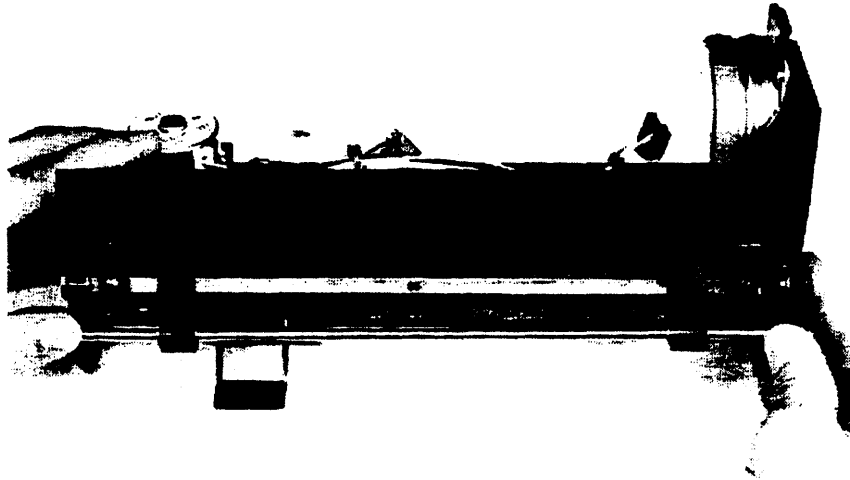

Figure 6-14. Bail-Arm Adjustment—Left Side
2. Once the right side is adjusted properly, apply downward pressure on the right side of the bail arm assembly and lift the left side of the bail. See figure 6-14. The left pinch roller should have the same amount of play. If not, use the techniques outlined in step 1 to make the proper adjustment.